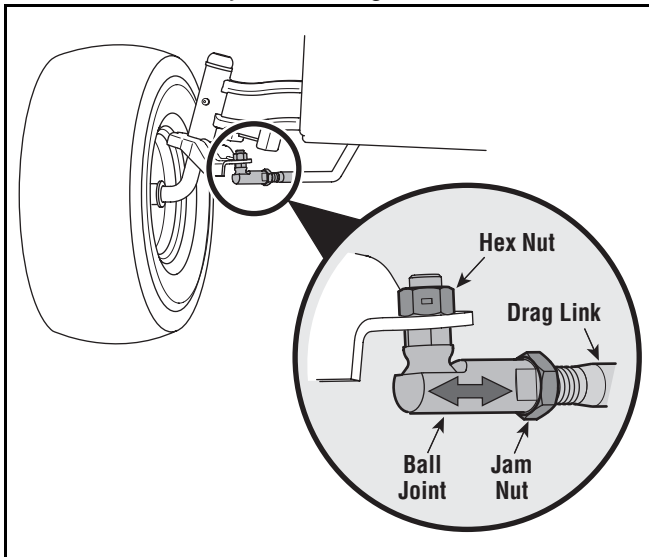

Figure 16
1. Loosen the jam nut found on the drag link at the rear of the ball joint. See Figure 16.
2. Remove the hex nut on the top of ball joint. See Figure 16.
2. Clean the area around the oil fill cap/dipstick to prevent debris from entering the crankcase. Refer to Figure 16.